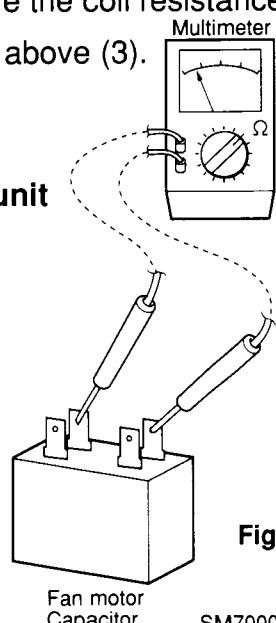

Fig. 49
⑤ **Fan motor capacitor** Both in indoor and outdoor unit
- Remove the lead wires from the capacitor terminals, and then place a probe on the capacitor terminals as shown in Fig. 49. Observe the deflection of the pointer, setting the resistance measuring range of the multimeter to the maximum value.